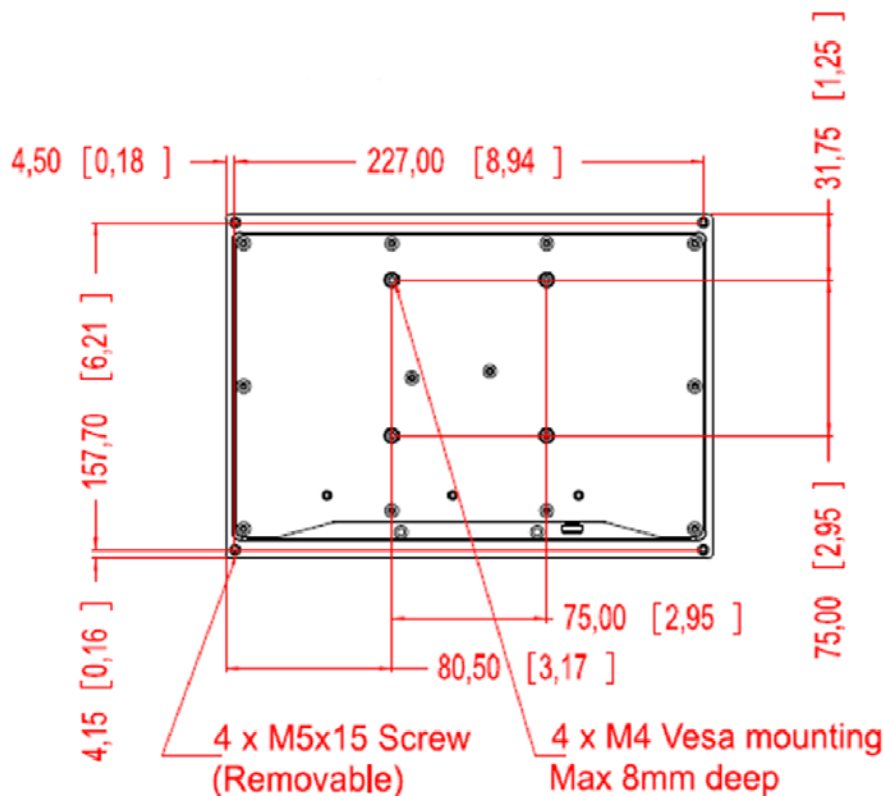

Figure 3 – TSM800 VESA Arm Mounting Retention Screw Holes
- Step 3:** Align the retention screw holes on the mounting arm interface with those in the TSM800. The arm mount retention screw holes are shown in Figure 3.